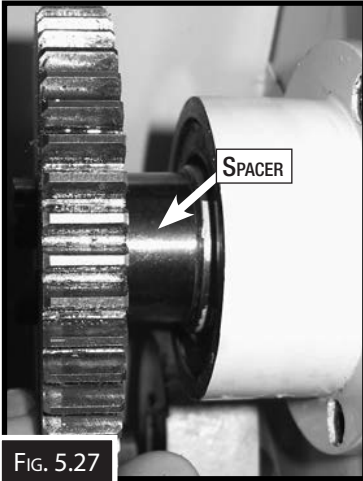

Fig. 5.27
10. If required slide the spacer onto the spindle, (Fig. 5.27) then slide the gear on the shaft. If the spacer is not required then place the gear on the shaft so that the shoulder is then placed against the bearing (Fig. 5.28).